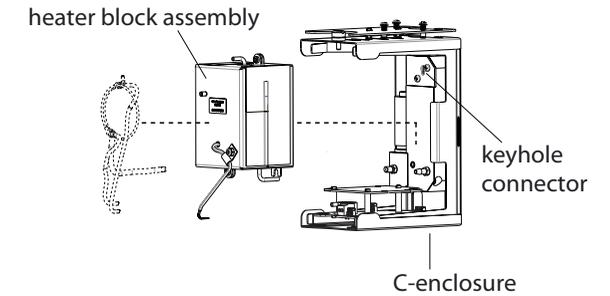

Figure 11: Removing the heater block assembly
8. Remove the heater block assembly by first lifting it up and then sliding it out of the keyhole connector in the C-enclosure (Figure 11).